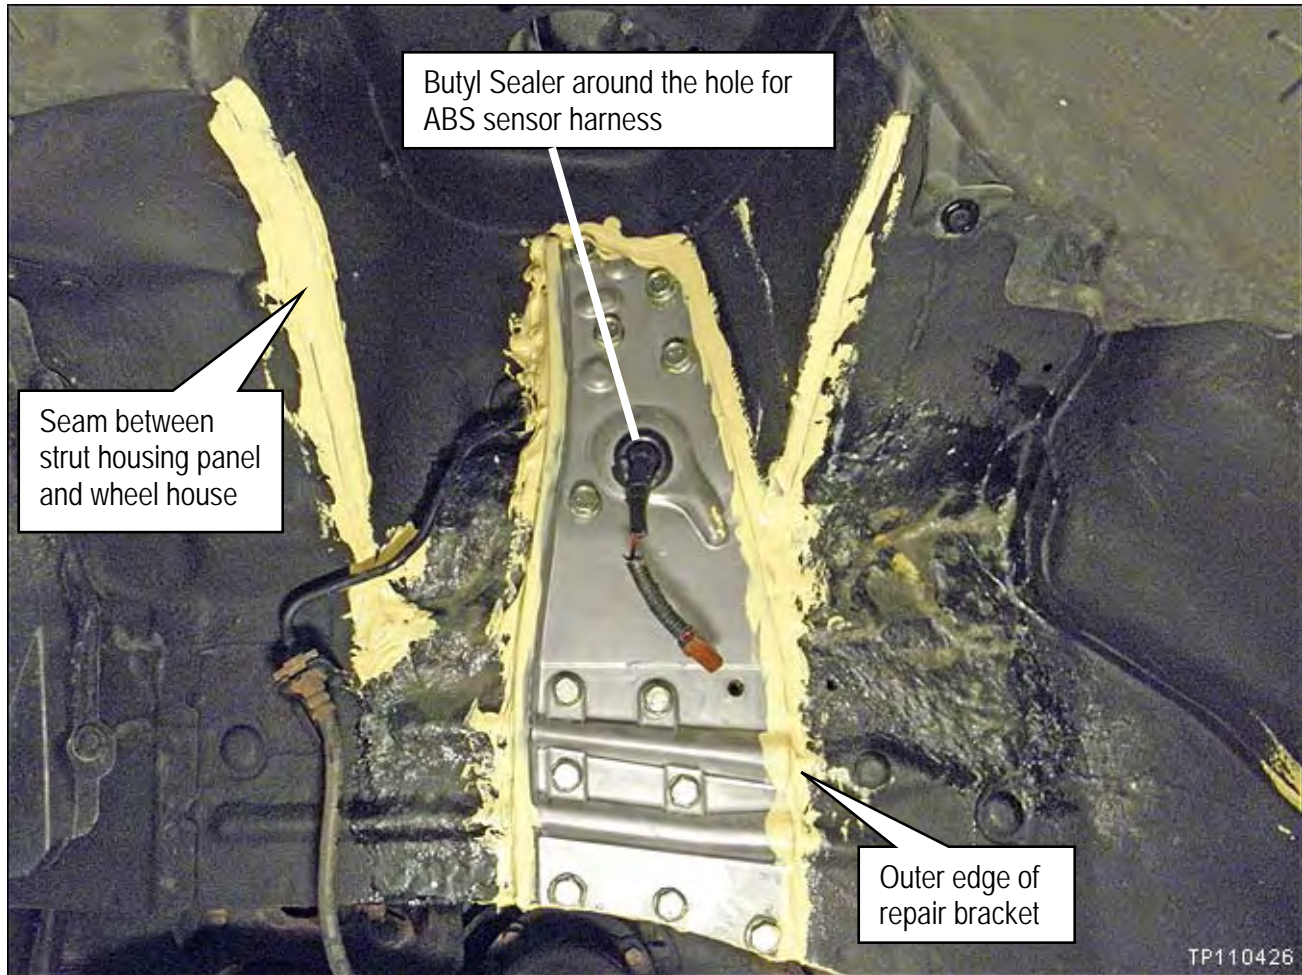

Figure RB31
36. Apply Fusor® 800EZ (seam sealer) as shown in Figure RB31.
37. Apply Butyl Sealer (P/N B6553 – 89915) around the opening for the ABS sensor harness (see Figure RB31).